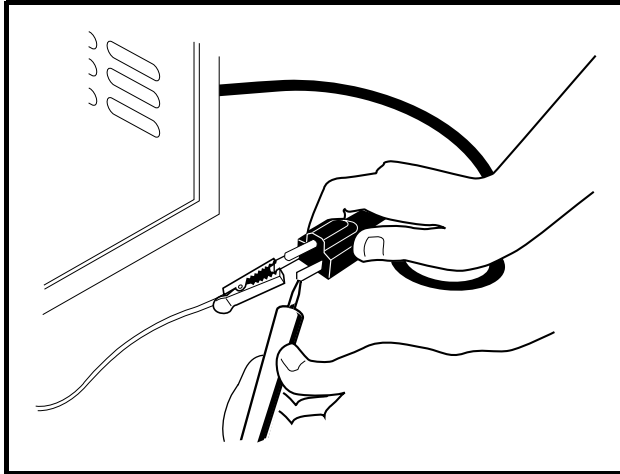

Figure 14-11 Test AC Cord
- 5.2. With relay bypassed, there should be continuity across AC cord blades (**Figure 14-11, Page 14-14**).